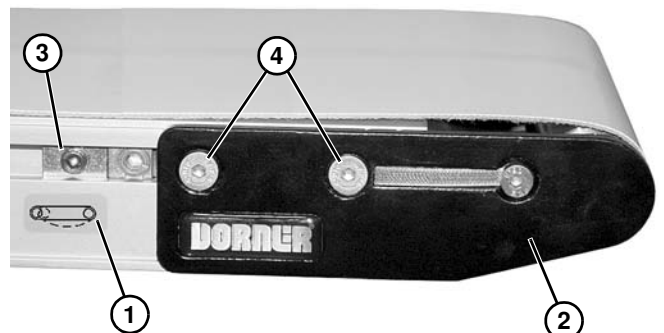

Figure 29
4. On tension end of the conveyor, identified with  a label (**Figure 29, item 1**), push in headplate assembly (**Figure 29, item 2**):
- a. On both sides of conveyor, loosen and move cam tracking assemblies (**Figure 29, item 3**) (if equipped) away from headplates.
- b. Loosen fastening screws (**Figure 29, item 4**) and push headplate assembly inward.